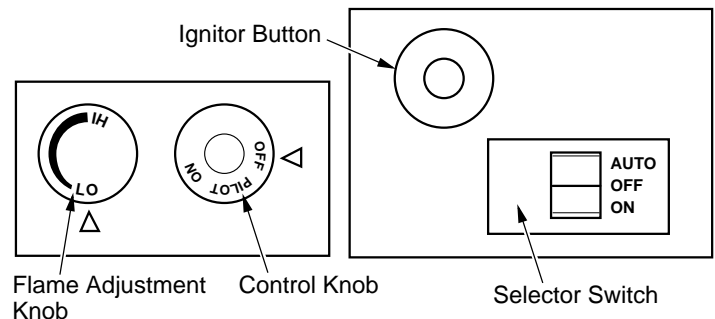

Figure 38 - Control Knob and Ignitor Button Location (Shown as Supplied, No Control Options)
5. Wait five (5) minutes to clear out any gas. Then smell for gas, including near the floor. If you smell gas, STOP! Follow "B" in the safety information, column 1. If you don't smell gas, go to the next step.
6. Press in and turn control knob counterclockwise  to the PILOT position. Press in control knob for five (5) seconds (see Figure 38).